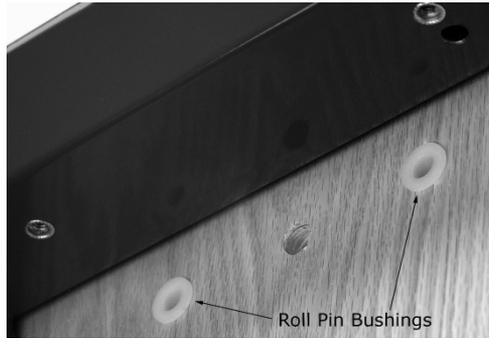

Figure 13. Installing the Roll Pin Bushings
3. INSTALL the roll pin bushings into the door (see Figure 13, "Installing the Roll Pin Bushings").